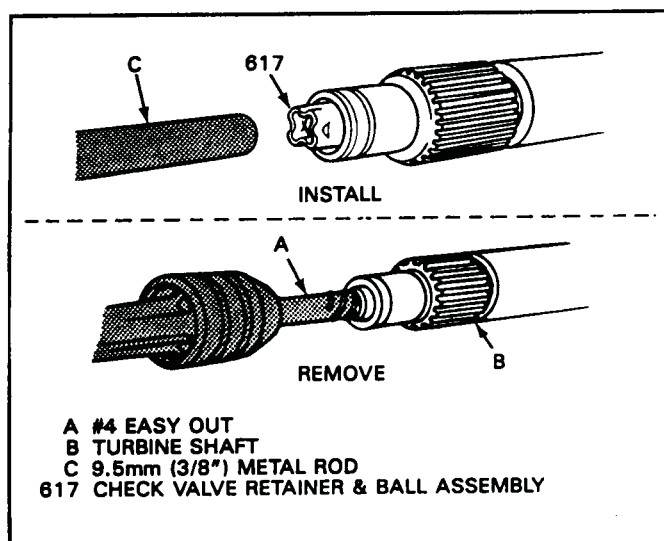

Figure 113
2. Remove the ball capsule retainer using a #4 screw extractor (See Figure 113).
5. Install the new ball capsule assembly using a 3/8\" drill punch and seat the retainer 1/8\" below the top surface of turbine shaft (See Figure 113).